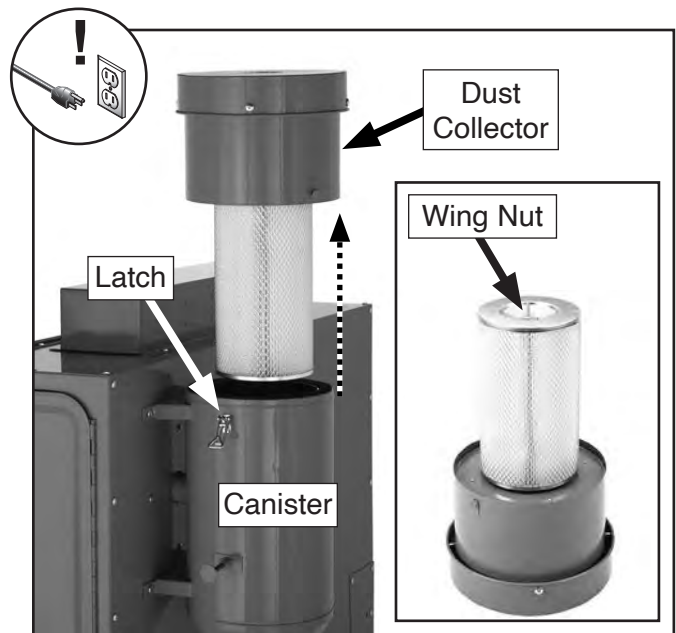

Figure 33. Dust collector and filter.
2. Unlatch (see **Figure 33**) the dust collector and lift the entire motor and filter unit out of the canister and place it on a workbench upside down.
3. Spin the wing nut off of the retaining stud, and remove the filter (see **Figure 33**).